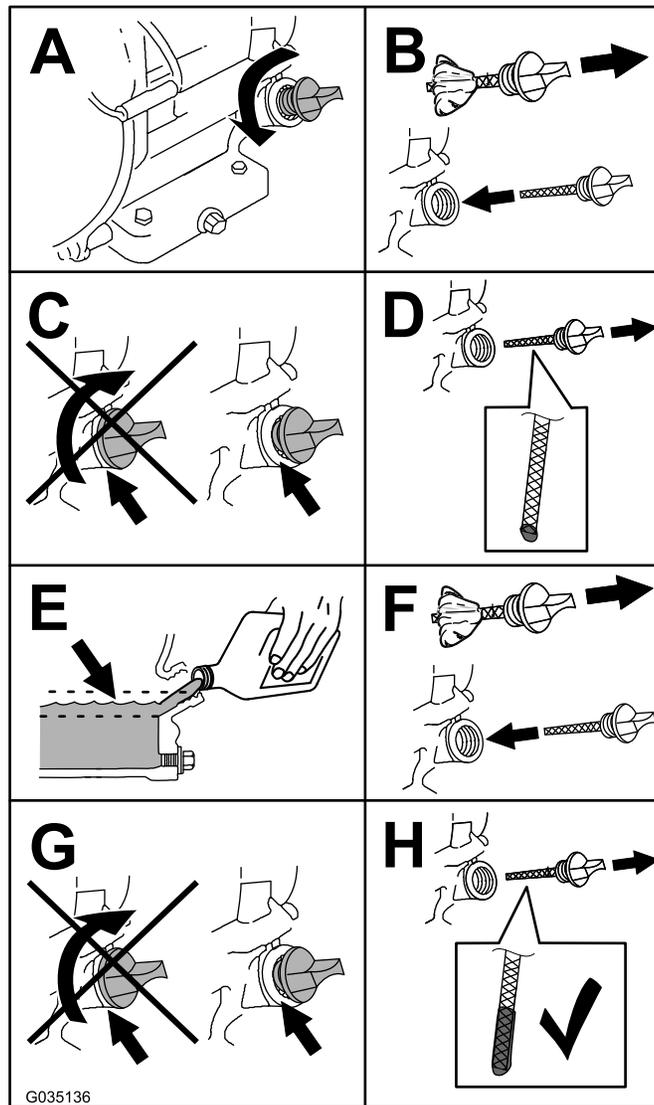

Figure 52
4. Check the oil level as shown in Figure 52.
6. Remove the dipstick (Figure 52) and slowly pour oil into the fill hole until the oil reaches the upper-limit mark (bottom edge of the oil-fill hole) on the dipstick.